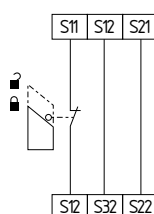

Fig. 11
**Single-channel guard door monitoring circuit with interlocking devices to EN ISO 14119 (see Fig. 11)**